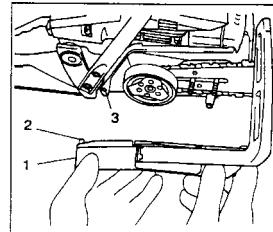

Fig. 1-3
4. Install the side case (1) onto the guide bar clamp bolts after inserting location pin (2) on the side case into the location hole (3) on the unit. (Fig. 1-3)